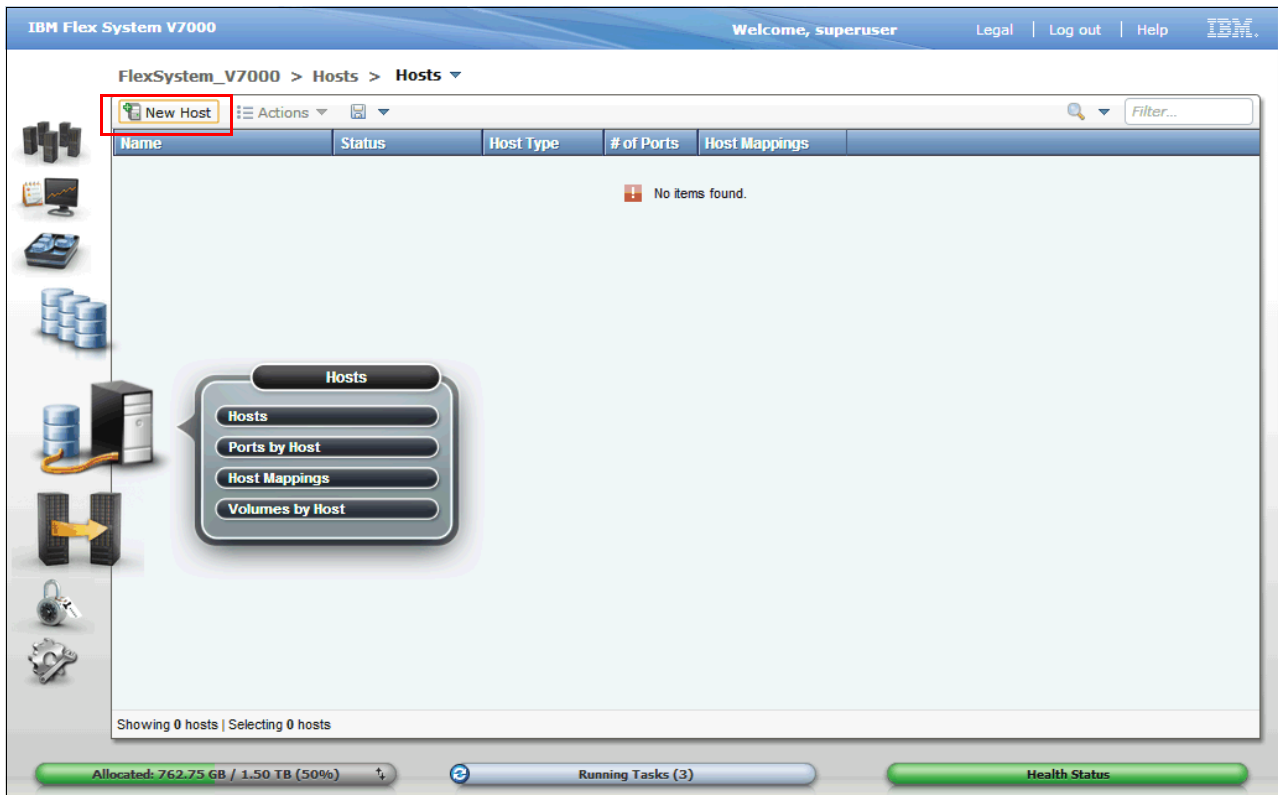

Figure 6-23 The Hosts menu - create new host
1. Navigate to the **Hosts** tab of the IBM Flex System V7000 Storage Node GUI and click **New Host** as shown in Figure 6-23.